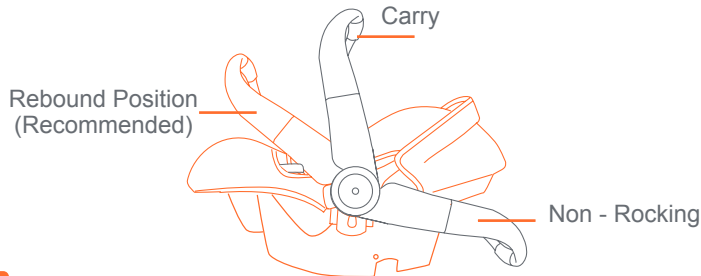

Fig. 23-2
- Baby Trend® Recommends using the tested and approved positions in the diagram below (Fig. 23-2).